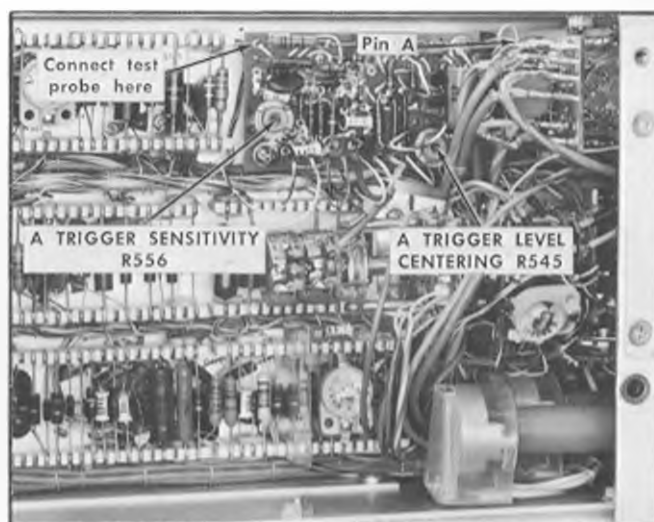

Fig. 6-30. External triggering adjustment locations, A sweep.
x. Adjust Trigger Sensitivity R556 and Trigger Level Centering R545 for a stable display on the test oscilloscope as in step (m). The locations of R556 and R545 are shown in Fig. 6-30.
- a. Connect the  $10\times$  probe to pin A (to grid of V534B) on the A trigger switch board (see Fig. 6-30). Check that the Type 556 A Triggering SLOPE switch is set to +. Set the test oscilloscope vertical deflection switch to 0.2 Volts/cm.